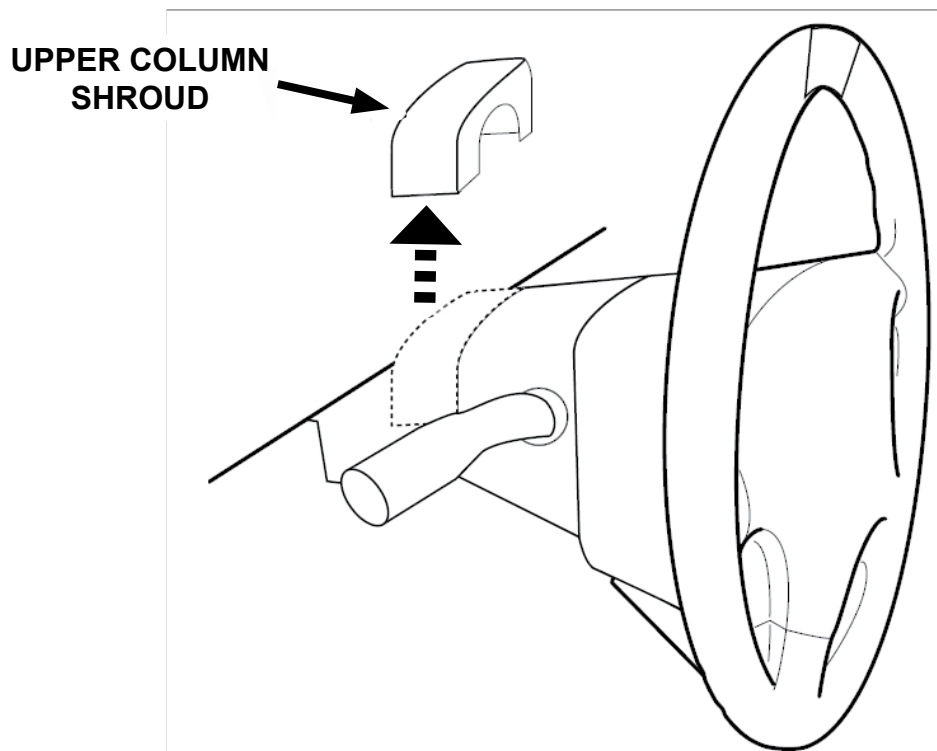

FIGURE 4
38. Install the upper column shroud. See Figure 4.